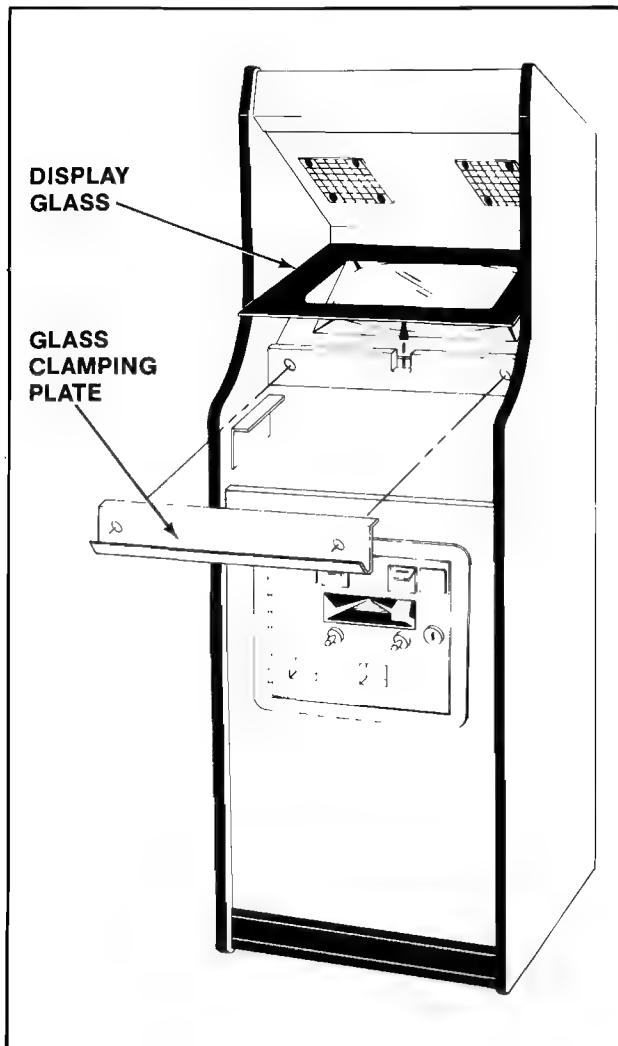

Figure 18 Removing display glass — Mini game
- Remove the screws which secure the glass clamping plate. See Figure 18.
- By putting your finger in the hole in the middle of the main-display-glass support, you can lift it up and out. See Figure 18.